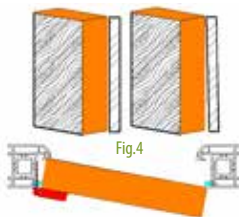

Fig.4
- Step 4 Fix the hinge jamb to the wall. Use a large spirit level to ensure that the jamb is square and plumb. Please note that the lock side must be adjusted to meet the door slab as each slab is bespoke and may vary by a small amount (see Fig 4).